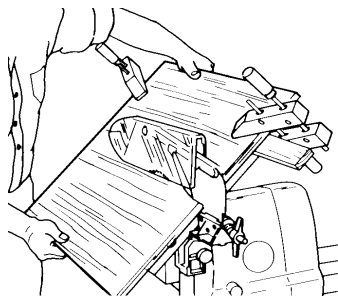

Figure C-14
5. When ripping a bevel in wide stock, you may not be able to mount the rip fence on the extension table. In this case, clamp a long, straight board to the underside of the stock and rest this board over the upper edge of the table. When properly positioned, the board will guide the stock. See Figure C-14. Mount the rip fence on the floating table.